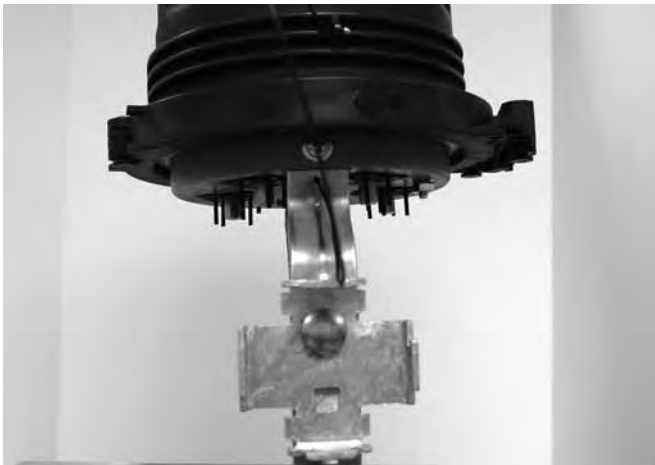

Figure 1
1. Attach the rack mounting bracket to the closure mounting bracket using the supplied bolt and nylock nut. (Figure 1)